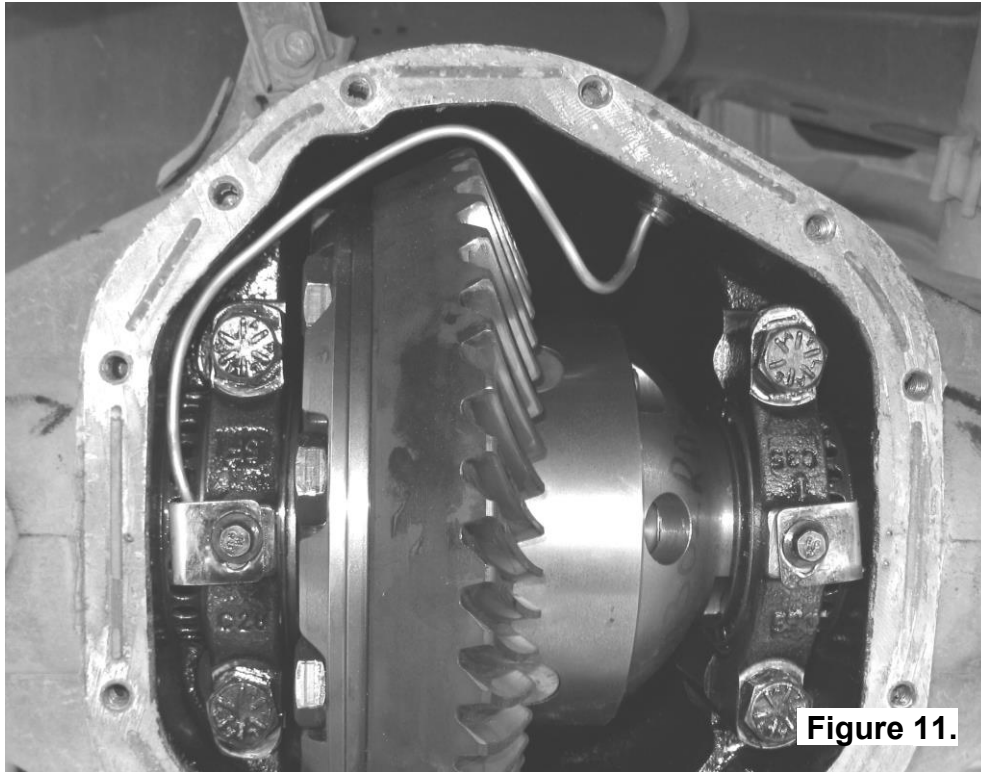

Figure 11.
- ☐ With the seal housing tube now firmly secured into the bulkhead fitting, bend the tube so that it closely follows the profile of the differential. (Fig.11.).